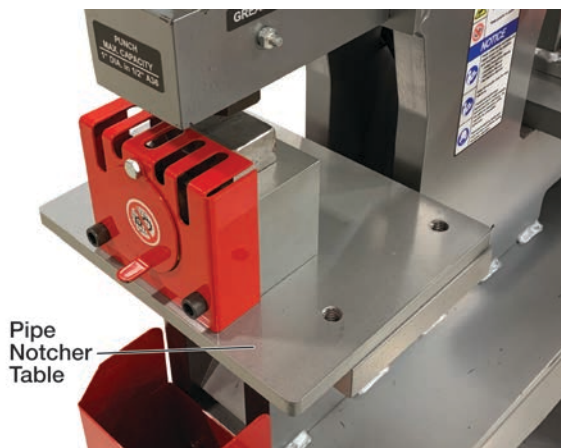

Figure 5
2. Place Pipe Notcher Table on Ironworker frame (see Figure 5). Align threaded mounting holes on bottom of Pipe Notcher Table with mounting slots on ironworker frame pedestal.